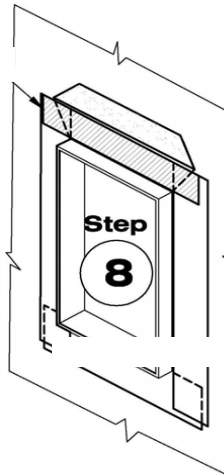

Figure 9 Apply head flashing.
Step 8. Precut Barricade® or Polyken® head flashing tape to extend a minimum of 6" beyond the jambs of the rough opening. Peel off release liner and adhere Barricade® or Polyken® head flashing over window fin and substrate. Install supplemental head flashing (where occurs) with a strip of Barricade® or Polyken® flashing over the top leg (see Figure 9).